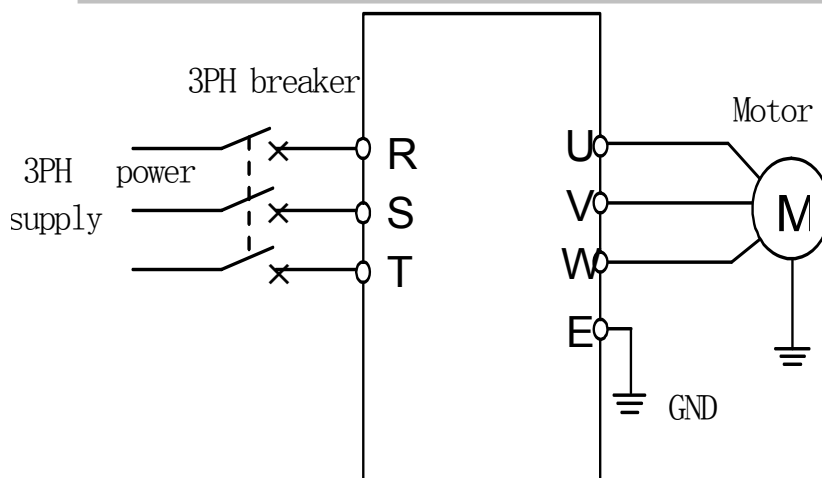

Fig 4-2 Wiring of simple running
- ① Please wire as fig 4-2;
- ② Be sure correct wiring then power on. Inverter displays "P.oFF", then "0";